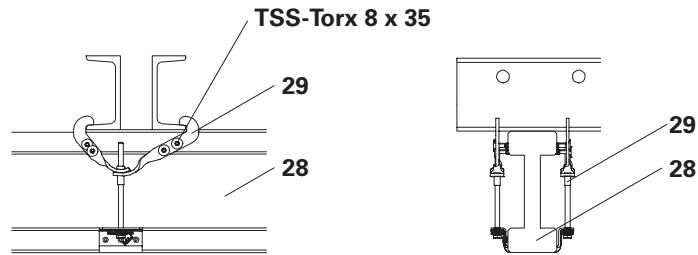
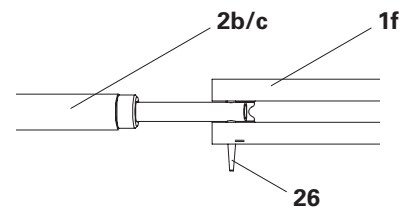

Fig. B2.01a
Fig. B2.02b
1. Fix Girder VT 20K (28) to the Steel Waler SRU U120 (1f) with the Hook Strap HBU (29).
2. Attach Hook Strap HBU (29) to the Girder VT 20 (28) by means of 8x TSS Torx 8 x 35. (Fig. B2.01a)
4. Bolt Connector SRU VARIOKIT (30) onto the Steel Waler SRU U120 (1f) using 1x fitting pin Ø 21 mm (26).
5. Bolt Heavy-Duty Spindle SLS (2b) or (2c) onto the Steel Waler SRU U120 (1f) using 1x fitting pin Ø 21 mm (26). (Fig. B2.02b)